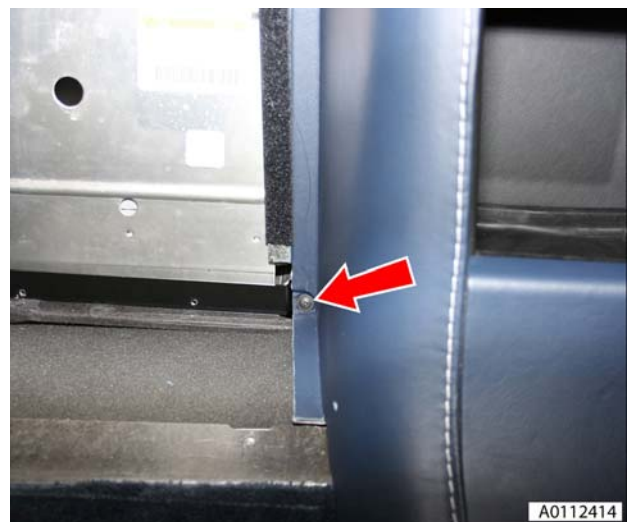

Figure 1
2. Remove screw (x1) trim to body lower (see Figure 1).